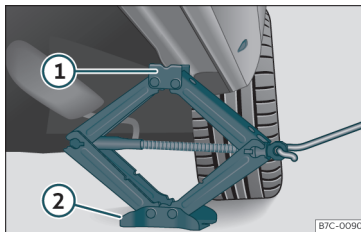

Fig. 63 Crossbar: mounting the jack on the vehicle.
- Turn the jack* crank handle, located below the strut support point, to raise it until the tab ① » Fig. 63 is below the housing provided.
- Align the jack* so that tab ① “grips” onto the housing provided on the strut and the mobile base ② is resting on the ground. The base plate ② should fall vertically with respect to the support point ①.